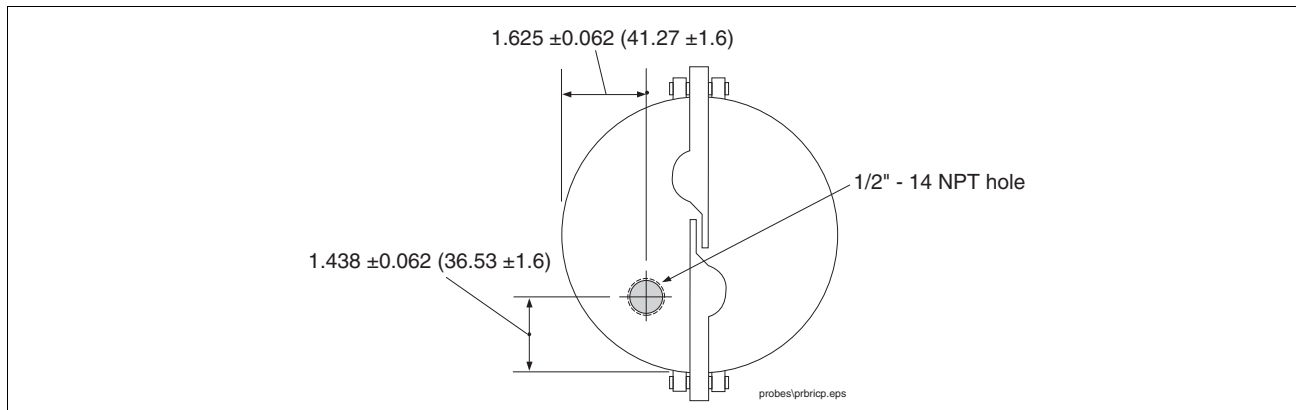

Figure 19. Modifying an Existing Metal Riser Cap
2. Drill and tap the cap for a 1/2"-14 NPT cord grip thread [Figure 19].